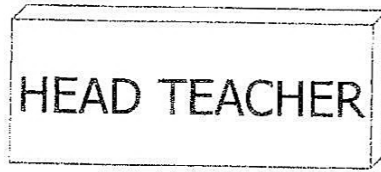

Figure 2
- (b) What would be the suitable material for making the tag in **figure 2**.